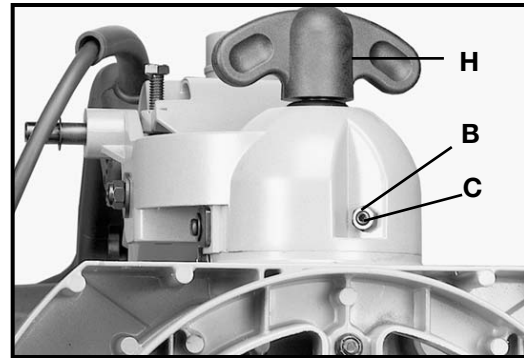

Fig. 28
4. If an adjustment is necessary, loosen bevel lock handle (H) Fig. 28. Loosen locknut (B) and turn adjusting screw (C), with wrenches provided, until blade is 90 degrees to the table. Tighten locknut (B) and bevel lock handle (H).
6. Loosen bevel lock handle (H) Fig. 28, and move cuttinghead all the way to the left bevel position and tighten bevel lock handle.